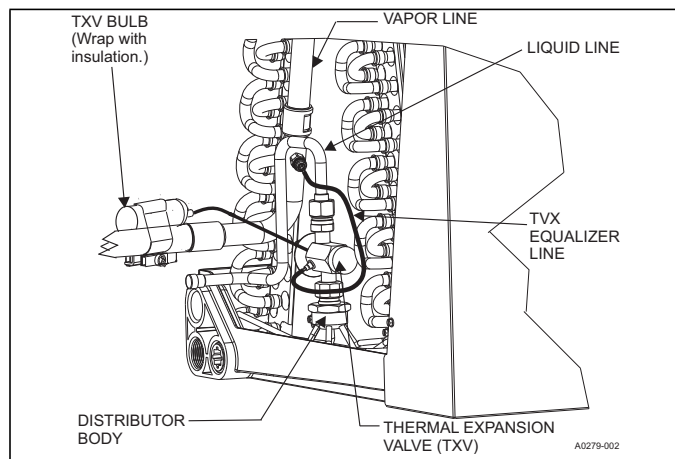

FIGURE 9: TXV Bulb and Equalizer line Installations
5. Slide the nut removed in step 3 over the supplied liquid line. Place supplied Teflon washer from TXV kit in place on TXV, and install liquid line to the top of the thermal expansion valve. Adjust assembly so liquid line aligns with hole in access panel. See Figure 9. Hand tighten the liquid line, and apply an additional 1/4 turn to seal.
6. Install the TXV equalizer line onto the vapor line by hand tightening the 1/4" SAE coupling nut to the equalizer fitting, and apply an additional 1/3 turn to seal. See Figures 9, 10 & 11.
8. Install the TXV bulb to the vapor line near the cabinet, using the bulb clamp(s) furnished with the TXV assembly. Ensure the bulb is making maximum contact. See Figures 9, 10 & 11, and accomplish the following: